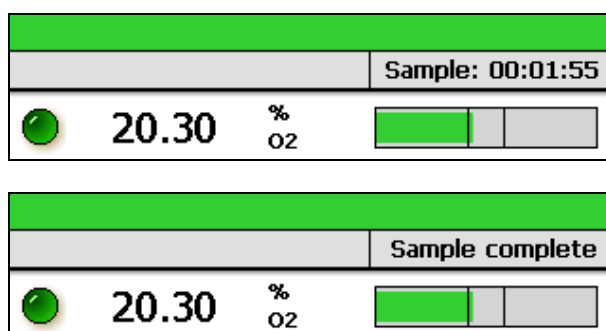

Figure 38 - Timed sample progress
- Throughout the sample period, the time remaining on the sample timer will be shown on the screen (Figure 38).
- When the sample is complete, the ACG will give three beeps and the sample valve will close. The main screen shall show that the sample is complete (Figure 38).